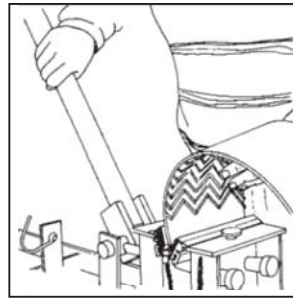

Figure 6
9. INSERT BELT INTO LACER BETWEEN HOOK POINTS. Center belt flush onto hook retainer and press Power Lever down. When hook points penetrate belt, press down with both hands until lever comes to a complete stop (Fig. 6).